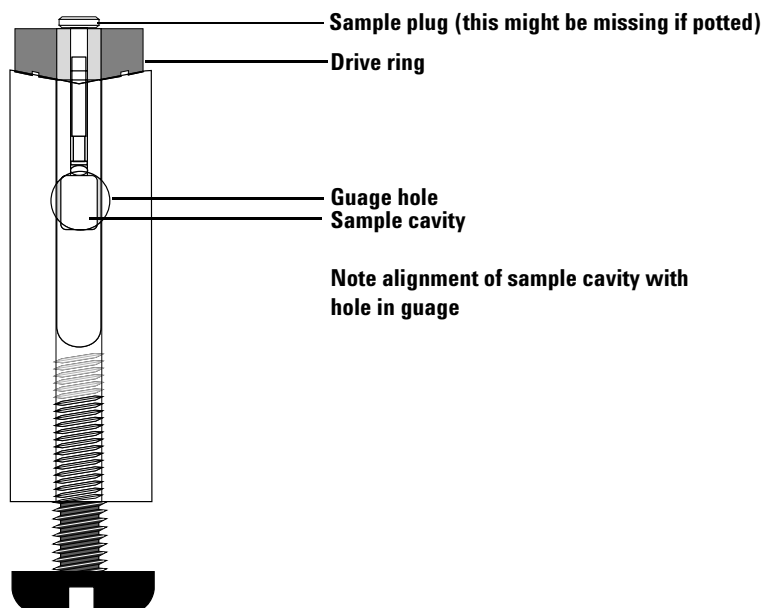

Figure 9 Nanoprobe sample depth gauge with sample tube.
These sample tubes have small cavities (see Figure 9) that are easily reached with standard Pasteur pipets. A 40 μl liquid sample should just fill the bubble cavity within the sample tube. The sample plug may have insufficient space to be fully inserted if the sample extends into the constricted region (neck) of the sample tube. A sample plug that is not fully inserted can cause spinning problems.
- a Check the location of the drive ring relative to the sample cavity by inserting the sample tube (with drive ring) into the sample depth gauge, as shown in Figure 9.
- b Adjust the positioning screw in the bottom of the alignment fixture so that the sample cavity is in the window when the sample tube rests against the screw, as shown in Figure 9.